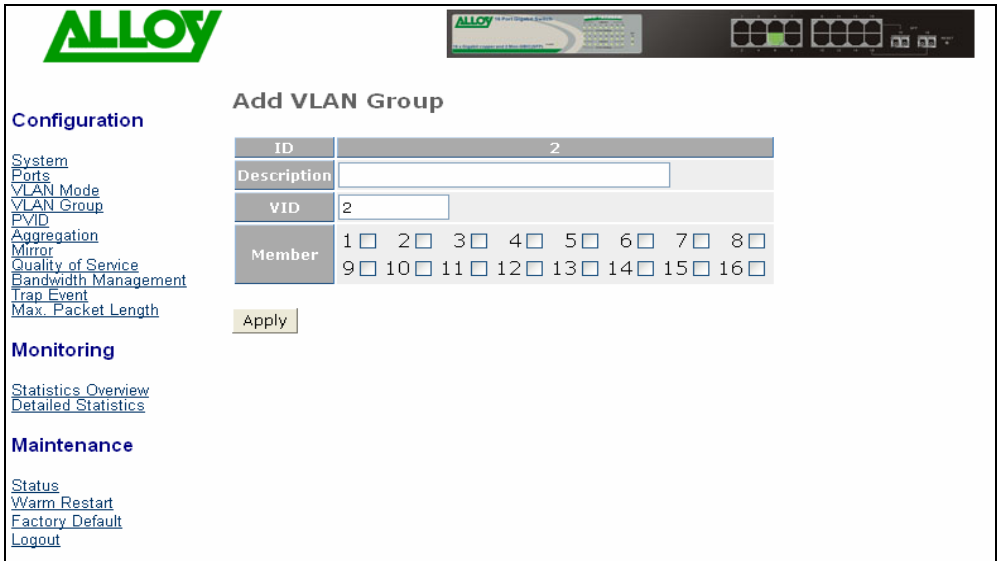

Fig. 3.9
- * Create a new port-based VLAN or tag-based VLAN, depending on the VLAN mode selected (see fig 3.9 next page)